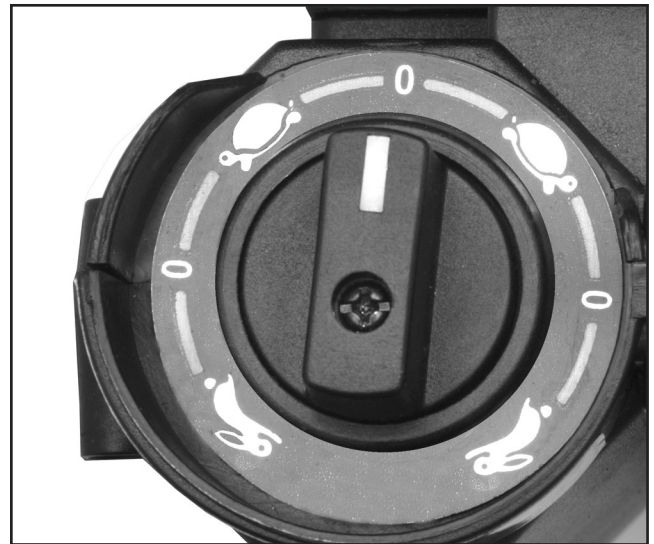

Figure 12. Feed direction and speed dial.
5. Connect the power feeder to the power supply and use the feed direction and speed dial (**Figure 12**) to test operation in both feed directions.
6. Turn the feed direction switch to "0" (the **OFF** position, **Figure 12**).